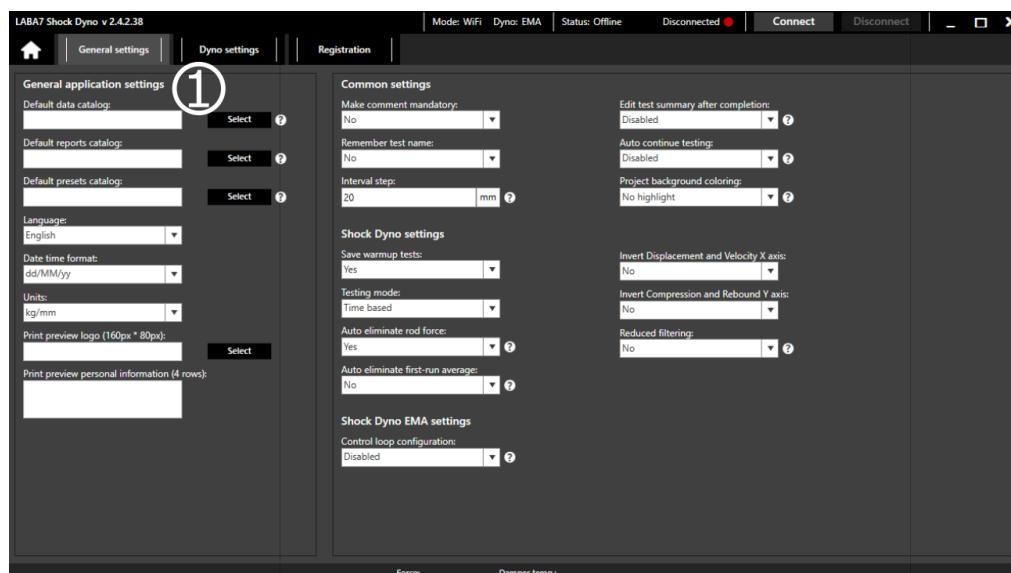

Figure 14
2. Select the default data catalog, this is the catalog, where all of your test project files will be saved (Figure 14 – Step 1).